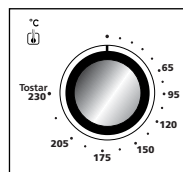

Figure 1
- 1. Temperature Control Knob** – Adjust the dial thermostat to the desired temperature. (See Figure 1)